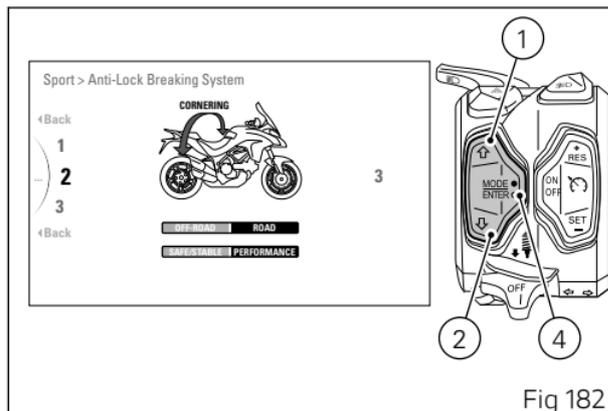

Fig 182
With buttons (1) and (2) select the new level of intervention desired. For each highlighted level, the corresponding paired value in the central table (highlighted with a black background) will be displayed. Furthermore, the braking system intervention level is indicated in Light Blue: the indication "**!FRONT ONLY**" (Fig 181) only for the front active brake, the indication "**CORNERING**" (Fig 182) for the active Cornering function. Once the desired level is highlighted, press button (4) to memorise the new selection. To exit the menu and go back to previous page highlight the "**◀ Back**" indication and press button (4).